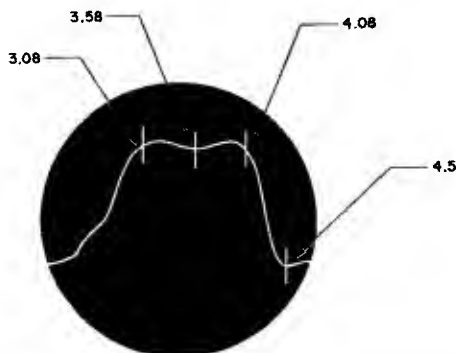

Figure 4.9 (Repeated) Chroma Bandpass Response Curve
- 6.1.13 Switch the **PROBES** switch to the **DEMOD** position. The chroma bandpass response curve should now be observed on the screen with the markers as shown in Figure 4.9 (Repeated). Depending on the output polarity of the video detector diode, the polarity of the chroma response obtained may be inverted with respect to the i-f response curve. If it is wished to view the curve with opposite polarity, place the **VERTICAL** switch in its alternate position.